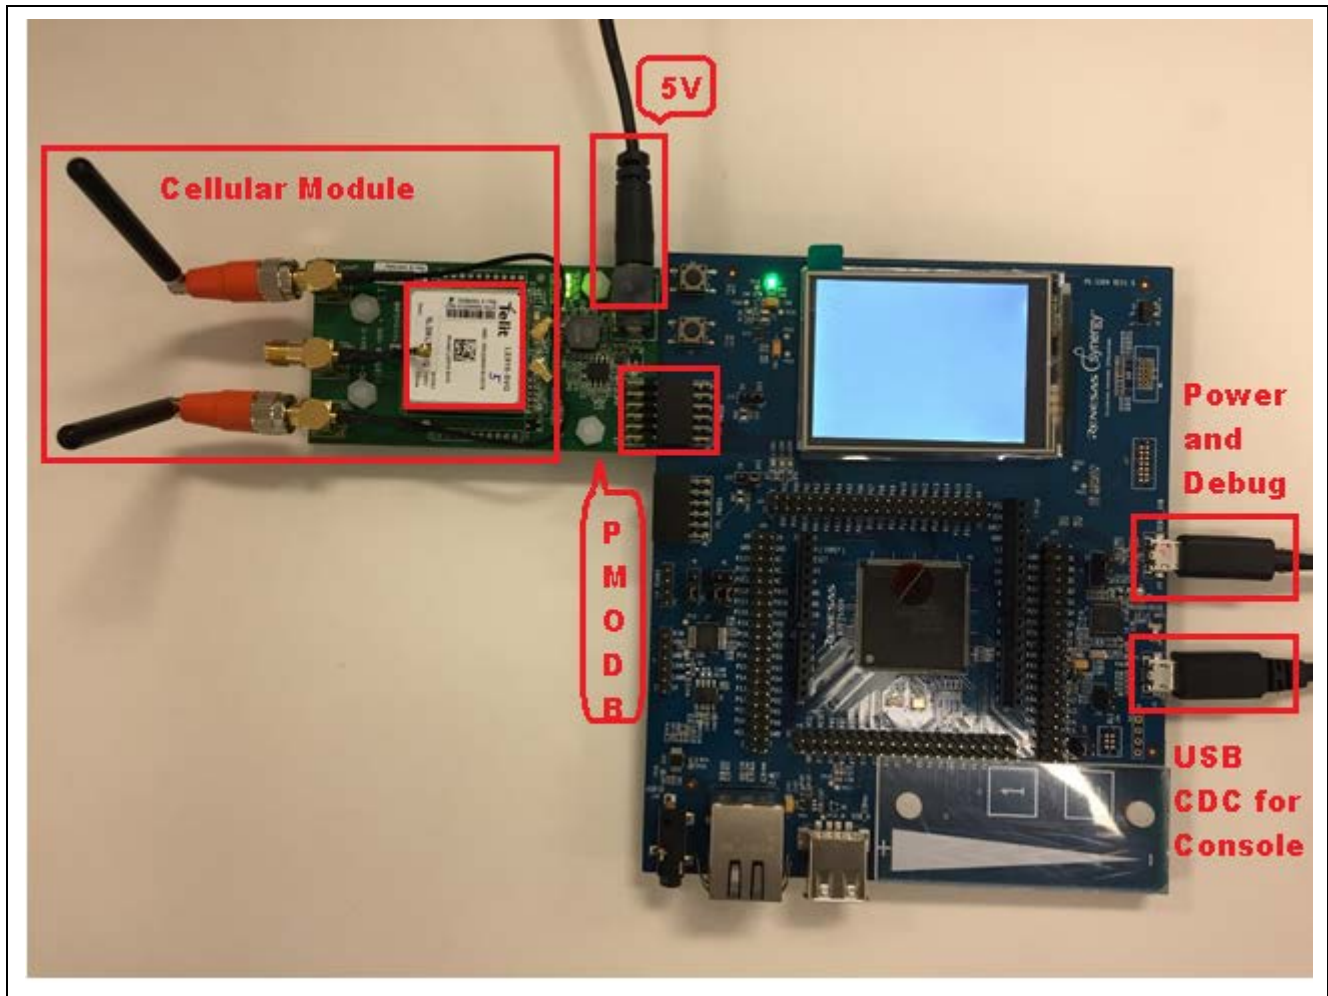

Figure 45. Cellular Hardware Module Hardware Setup for CAT1/CAT3
1. CAT3 or CAT1 Cellular Hardware Module to PMOD-B of the PK-S5D9 as shown in the Figure 45.